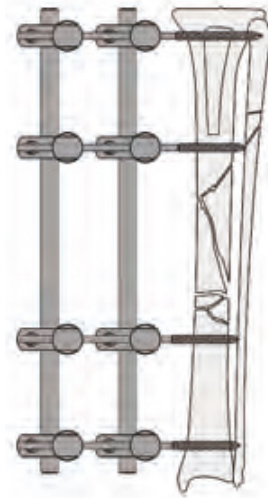

Fig. 26
- Adding a second connecting bar adjacent to the first (Fig. 26).